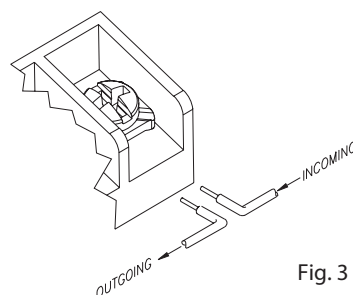

Fig. 3
- For supervised circuits, see "Switch Terminal Connections" drawing and warning note (Fig. 3).